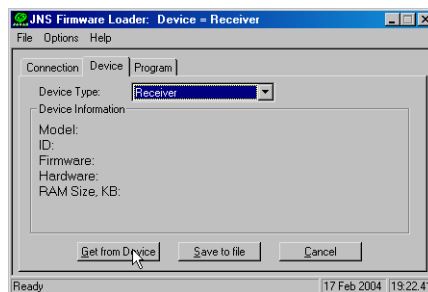

Figure 4-15. Set Device Type
6. Select the **Device** tab and set the Device Type as Receiver (Figure 4-15).
7. Click **Get from Device** for device information (Figure 4-15).